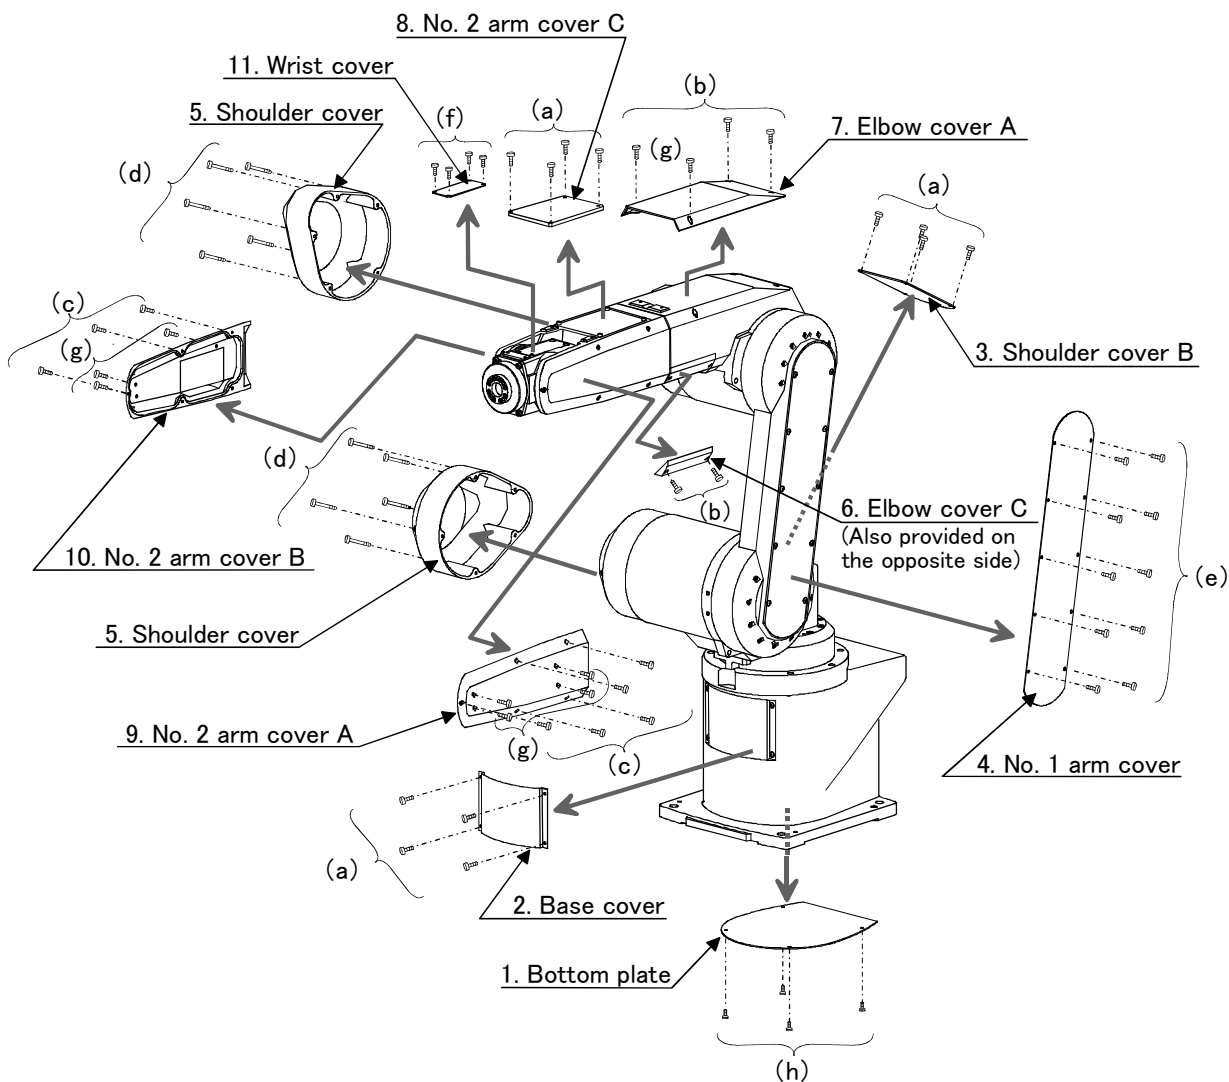

Fig.5-3 : Installing/removing the cover
- (1) Refer to Fig. 5-3 and remove the cover.
- (2) The names of the covers are given in Table 5-3, and a list of the cover installation screws is given in Table 5-4.
- (3) There are some covers that may be difficult to remove due to the robot posture. In this case, change the robot posture with jog operation, and then remove the cover.
- (4) When attaching the cover after maintenance and inspection, use the detaching procedure in reverse.
The part Nos. and symbols in Table 5-3 and Table 5-4 correspond to Fig. 5-3.